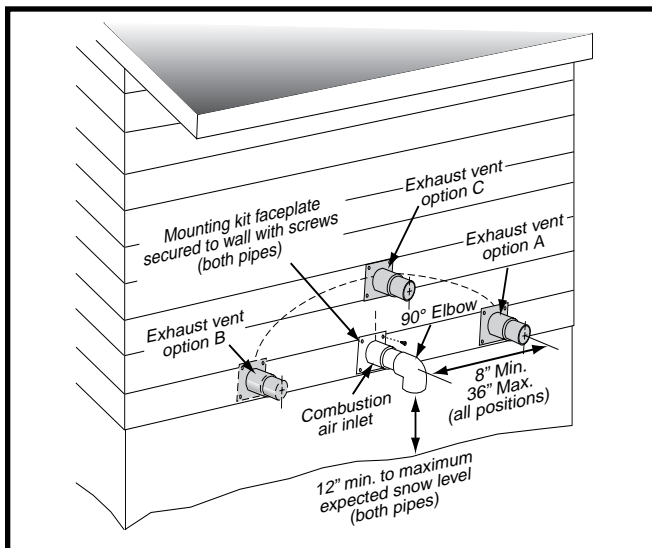
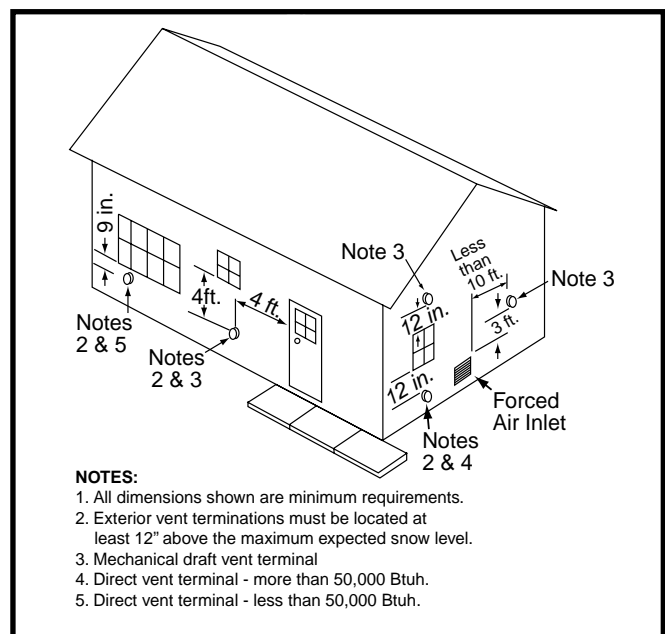
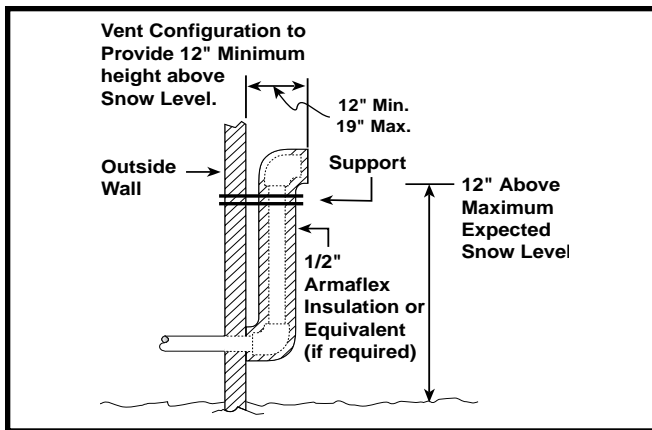
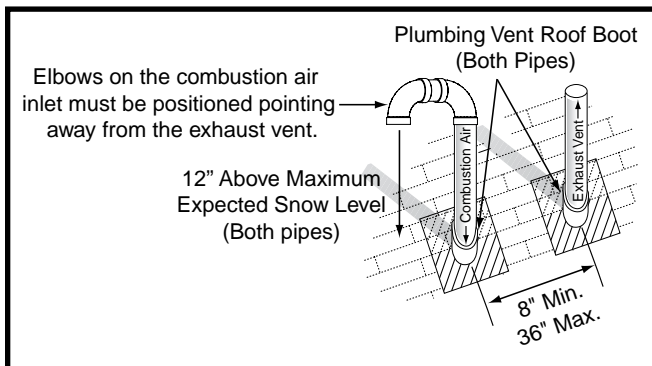

Figure 7. Inlet & Exhaust Pipe Clearances
Figure 8. Vent Locations
Figure 9. Alternate Horizontal Vent Installation
Figure 10. Vertical Vent Termination
- The combustion air intake and the vent exhaust must be located in the same atmospheric pressure zone. This means both pipes must exit the building through the same portion of exterior wall or roof as shown in Figure 7 (page 11), Figure 8, Figure 9 (page 12), & Figure 10.
Vent and combustion air intake terminations shall be installed as depicted in Figure 7, Figure 8, and in accordance with these instructions:
- All minimum clearances must be maintained to protect building materials from degradation by flue gases as shown in Figure 8.
- When the vent pipe must exit an exterior wall close to the grade or expected snow level where it is not possible to obtain clearances shown in Figure 7, a riser may be provided as shown in Figure 9 \(page 12\). Insulation is required to prevent freezing of this section of pipe. For vent freezing protection, see page 12.
The combustion air vent and exhaust vent must be configured as shown in Figure 9. Improper vent terminations can cause the recirculation of flue gases which may result in furnace vibration. In severe cases, the furnace will cycle, due to the intermittent contact between the flame and the flame sensor. If you notice these oscillations occurring, check the vent configuration to make sure the exhaust vent does not have a 90 degree termination.
- The combustion air inlet pipe must have a 90 degree termination elbow, and pointed downwards as shown in Figure 7 (page 11).
Termination spacing requirements from the roof and from each other are shown in Figure 10.
- The termination clearances shown in Figure 10 are maintained.